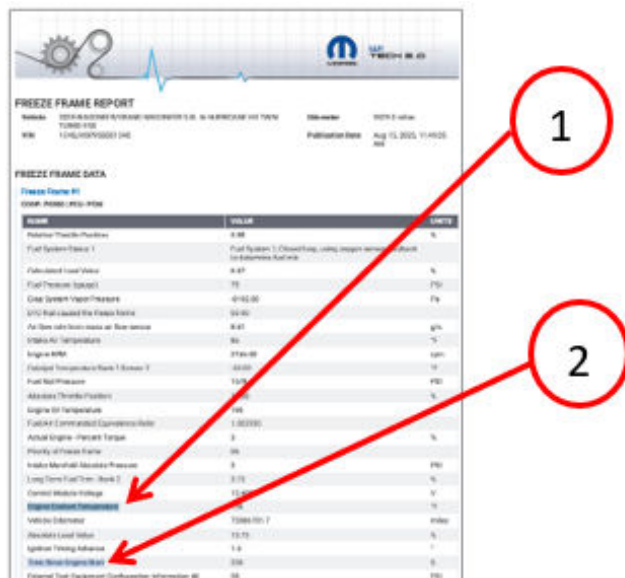

Fig. 2
- Engine coolant temperature °F less than 50 °C (122 °F) Fig. 2.
- Time since engine start is less than 30 seconds Fig. 2.